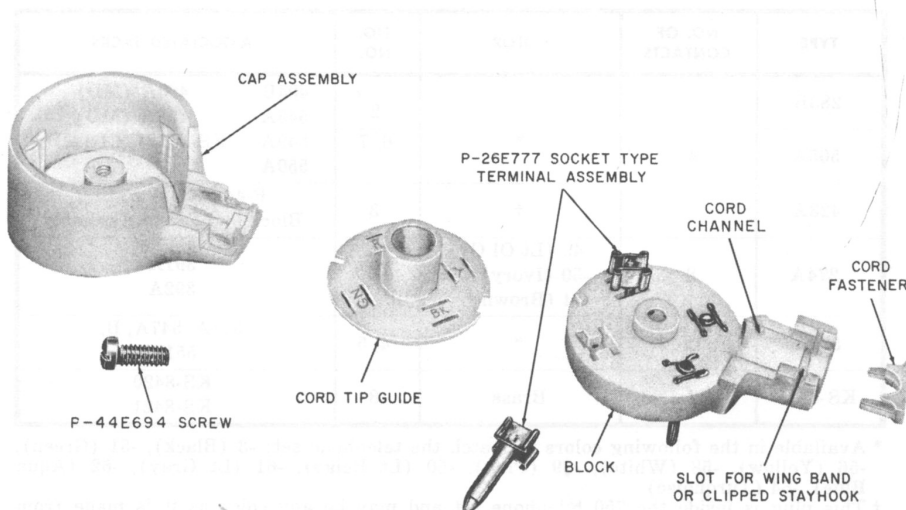
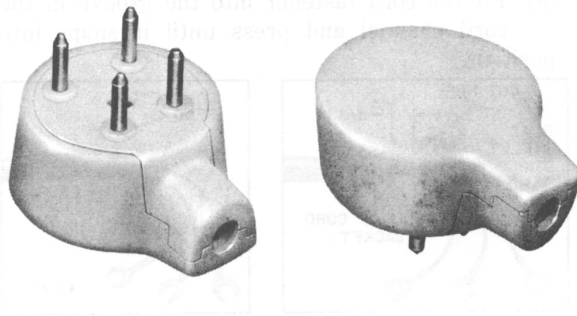

Fig. 7—505A Plug Disassembled
Fig. 6—505A Plug
2.07 The 505A plug (Fig. 6) is a 4-contact plug similar to the 504A plug, but has in addition a cord fastener (Fig. 7) which holds the cord in place while the spade tips are being connected.